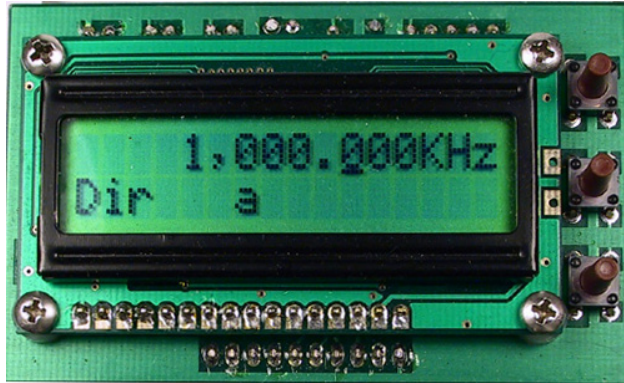

Figure 23. Operational FCC-2 Display
- ☐ Apply a 12 volt DC supply to FCC-1 JP1. Pin 1 is negative. The display should indicate **FCC-2** on the top line and **Ver 1.0** on the bottom. This will be displayed for about a second. The top line should then display **1,000.000 KHz**. The second line should read **Dir a** , as shown in **Figure 23**.